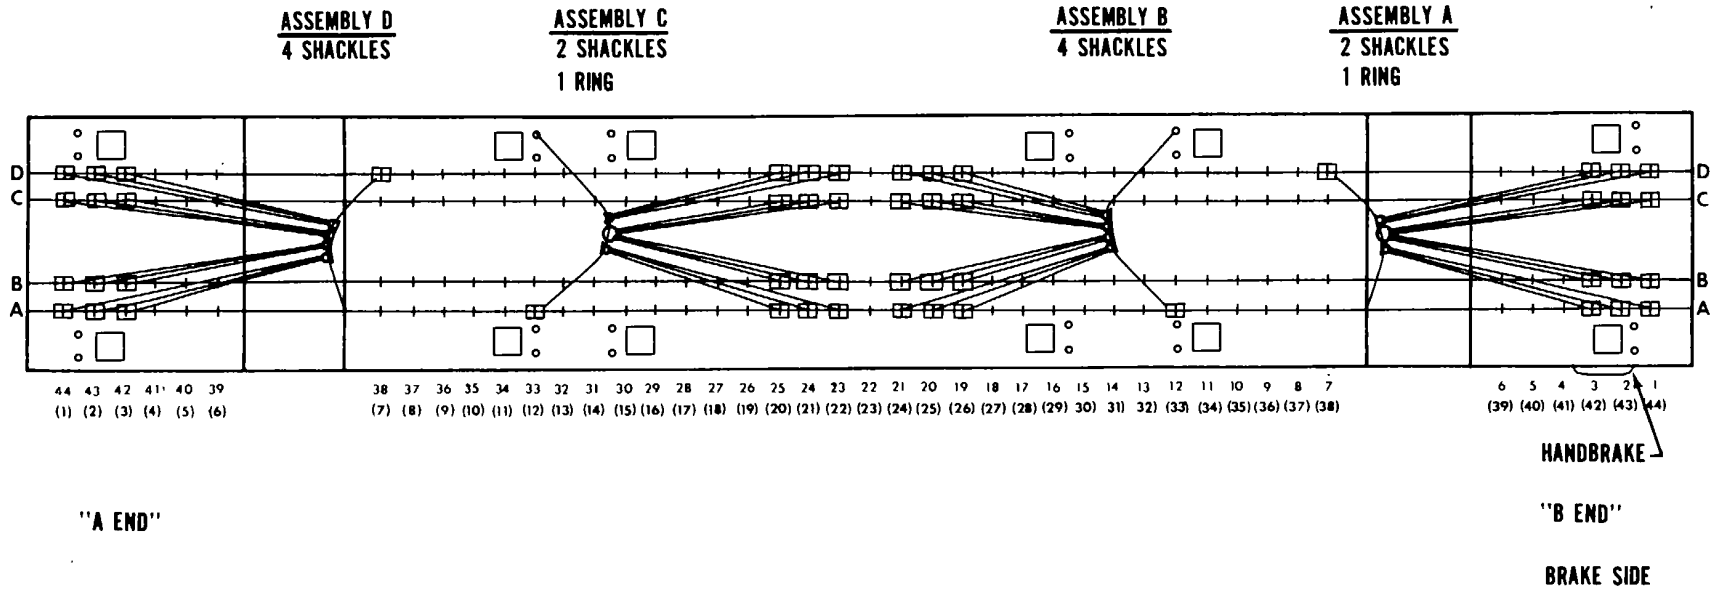

Figure 2-2. Diagram for securing tiedown devices to empty car.
b. The chain securement system is arranged in four assemblies: A, B, C, and D. These assemblies are illustrated in figures 2-2 through 2-5, respectively.
(1) Assembly A.
c. If one vehicle is moved on a flatcar, the chains in the middle of the car will be used to tie down the vehicle and those on the ends of the car must remain secured in a necklace arrangement. On cars with at least two spare chains, the spares will be used as crossover chains and placed in channel D positions 7 and 38 as described in assemblies A and D for an empty car at figure 2-2.
d. If a car has only 48 chains, all 24 chains in the center of the car must be used to tie down the vehicle (except the M109 self-propelled howitzers, which use only 12 chains). Since this leaves no chains available to cross over the deck to secure chains, shackles, and rings at the end of the car, the chain assemblies, with anchors, near positions D3 and D42 must be removed and placed at positions D7 and D38. These will become the crossover chains. At this point, follow the crossover procedures identified in assemblies A and D of figure 2-2.